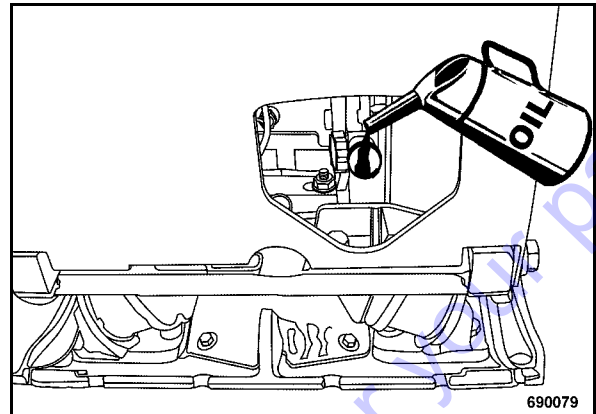

Fig. 44
- Fill in fresh engine oil through the filler opening (Fig. 44).